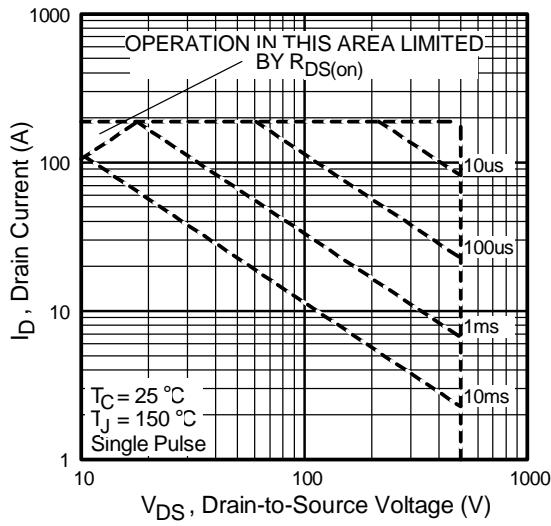

Fig 12. Maximum Safe Operating Area
- ② Starting $T_J = 25^\circ\text{C}$, $L = 0.86\text{mH}$, $R_G = 25\Omega$, $I_{AS} = 46\text{A}$. (See Figure 12).
- ③ $I_{SD} \leq 46\text{A}$, $dI/dt \leq 367\text{A}/\mu\text{s}$, $V_{DD} \leq V_{(\text{BR})\text{DSS}}$, $T_J \leq 150^\circ\text{C}$.
- ④ Pulse width $\leq 400\mu\text{s}$; duty cycle $\leq 2\%$.
- ⑤ $C_{oss \text{ eff.}}$ is a fixed capacitance that gives the same charging time as C_{oss} while V_{DS} is rising from 0 to 80% V_{DSS} . $C_{oss \text{ eff. (ER)}}$ is a fixed capacitance that stores the same energy as C_{oss} while V_{DS} is rising from 0 to 80% V_{DSS} .